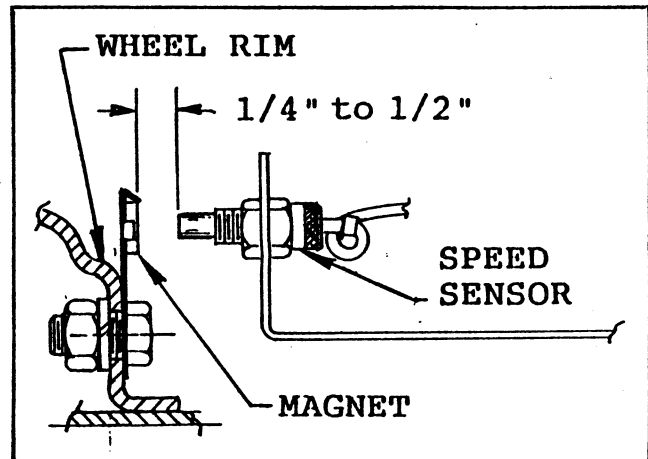

FIG. 10
■ Mount the magnet clip to the inside of the Vehicle's left-rear wheel. Use the 7/16" bolt, lock washer and nut (in parts bag) to secure the clip to one of the square holes in the wheel rim. See FIG. 10.
■ Turn one 3/8" locking nut onto the sensor and insert the sensor into the large hole in the mounting bracket as shown in FIG. 10 and turn on remaining lock nut. Adjust nuts until the tip of the sensor extends a minimum of 1/4 inch beyond the locking nut.